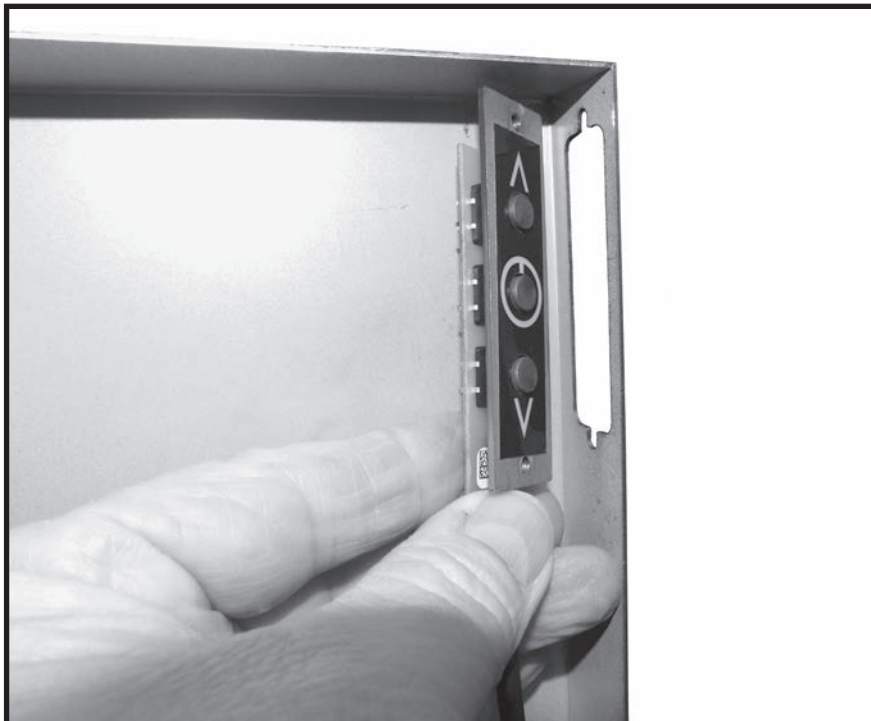

Figure 87: Positioning the switch behind the backing plate opening slot.
2. Position the ON/OFF switch against the open slot on the surround backing plate. Be sure to orient the switch as shown in (Figure 87).